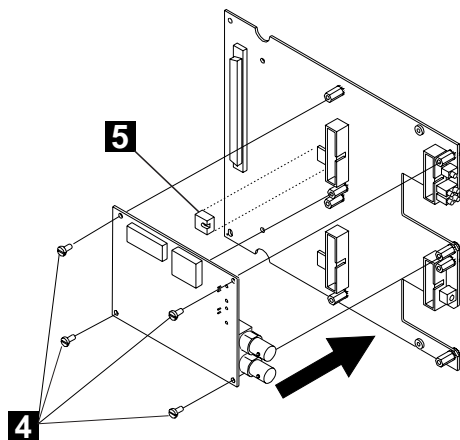

Figure 12. Attaching the I/O Card
- 4 Attach the I/O card to the motherboard using the four screws provided (4 in Figure 12).